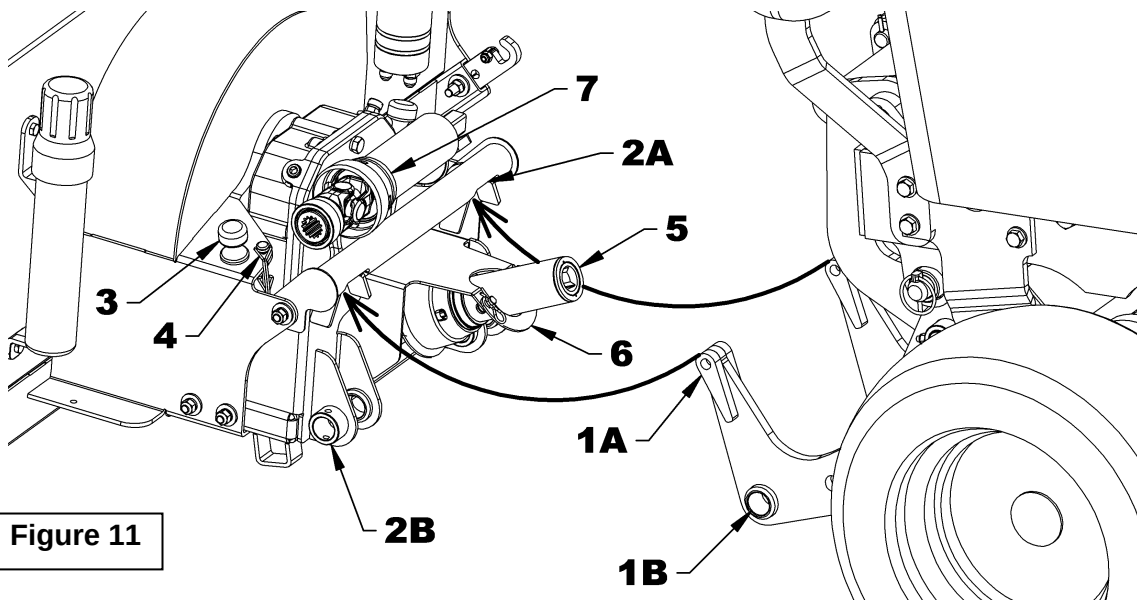

Figure 11
PRECAUTIONS BEFORE each connection (figure 11)
Steps to Connect the Snowblower (figures 11 to 17)
- **STEP 1:** Figure 11: Start the tractor, remove the parking brake, slowly move forward, making sure that the snowblower female hitch is properly aligned with the tractor male hitch. Lower the tractor male hitch sufficiently so that the two upper ends of the hitch (item 1A) can fit into the tube openings (item 2A) of the snowblower female hitch.
- **STEP 2:** Figure 11: Using the tractor hydraulic control lever, lift the snowblower completely upward to position the snowblower hitch with the tractor male hitch. This step will allow the male hitch bushings (item 1B) to align well with the bushings of the female hitch of the snowblower (item 2B).